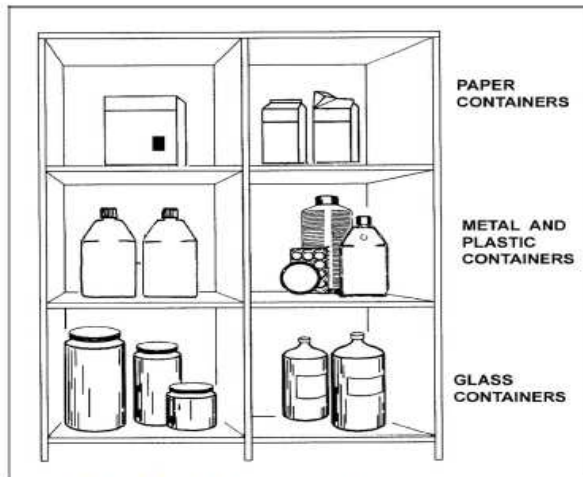

Figure 2: Pesticide Storage Shelf System
- Separate pesticides stored in different types of containers. A three-shelf system is preferred (Figure 2 sketch below). Shelves 12"-15" deep and 18" high are typically suitable. Bottom shelves should be at least 4" above floor level for ventilation;